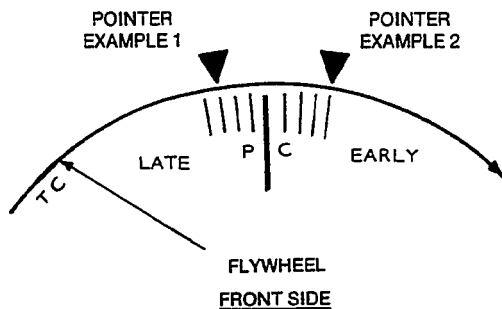

FIGURE 54. TIMING MARKS
- A. Mark flywheel in 0.1 inch (2.54 mm) graduations (about five marks each direction) from PC mark for calculating required change in button thickness, Figure 54.